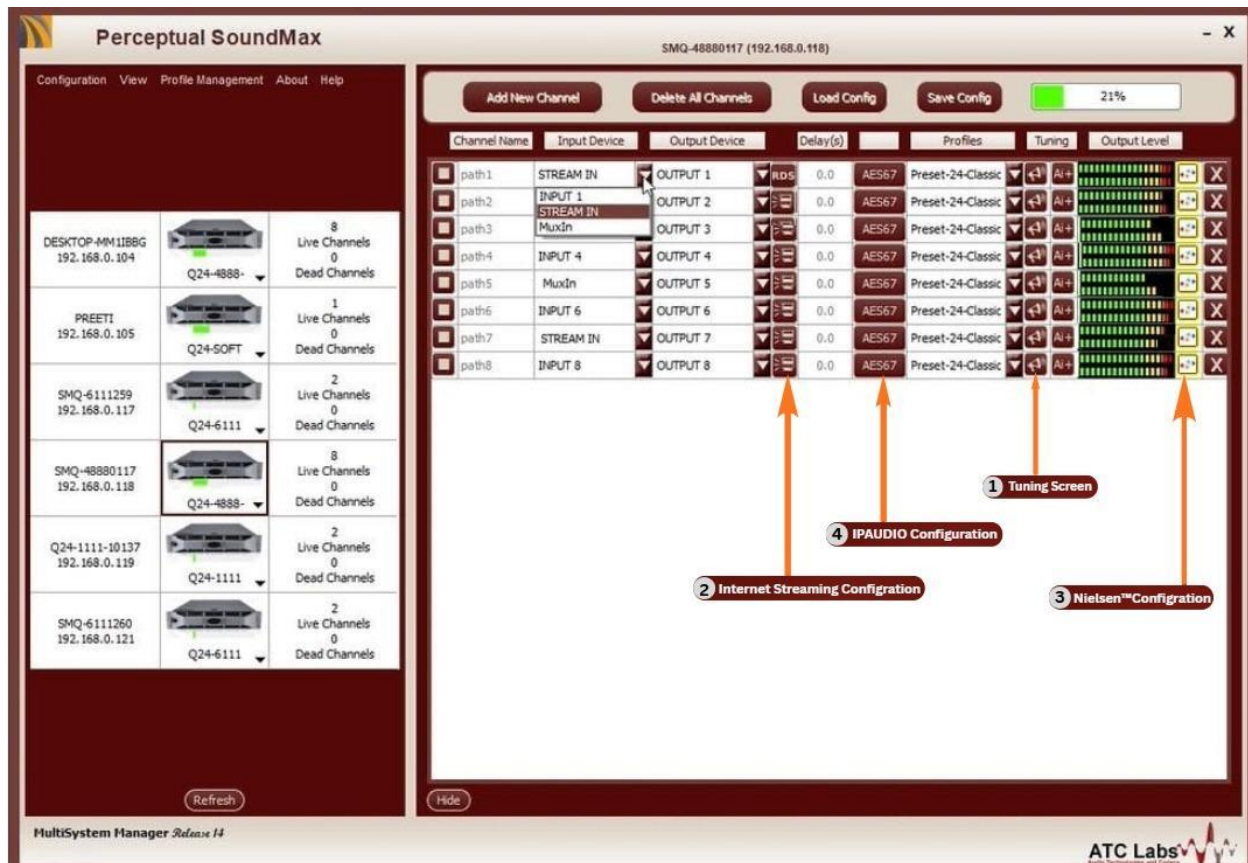
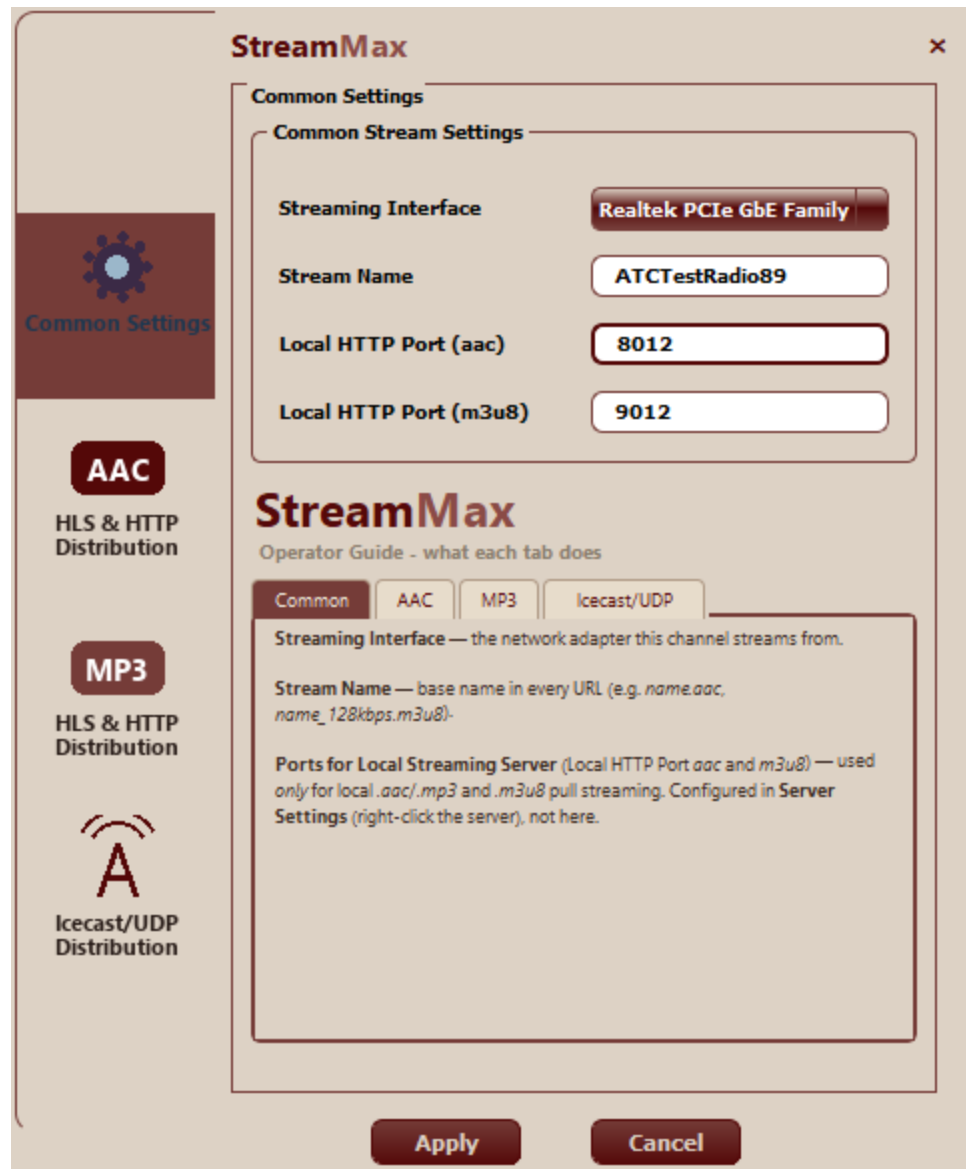

Figure 4.1: Manager Detailed View (Q24-4888) to adjust controls
Figure 4.3.1: Common Settings Panel
SoundMax™ Manager controls can be adjusted from the detailed view in Figures 4.1 and 4.2 below.
Customized internet radio from SoundMax™ gives you a totally new experience in terms of simplicity and quality. Internet streamlining can be controlled from both SoundMax™ manager and the Q24-4888/Q24-4880. Following are the steps of configuration.. Internet streaming can be configured by pressing Button labels ② on the SoundMaxManager™ detailed view panel in Figure 4.1. The panel shown in Figure 4.3.1. opens when the button labeled ② is pressed on any of these paths. Multiple simultaneous streaming options are available:
The Common Settings tab (Figure 4.3.1) defines the identity of the stream and the network interface it uses. The configuration window is titled **StreamMax**, and the **Operator Guide** at the bottom of the window summarises what each tab (Common, AAC, MP3, Icecast/UDP) does.